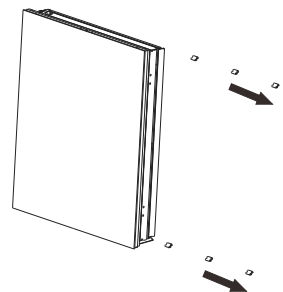

Fig.13
- 1.6 Remove the hook, see (Fig.13).